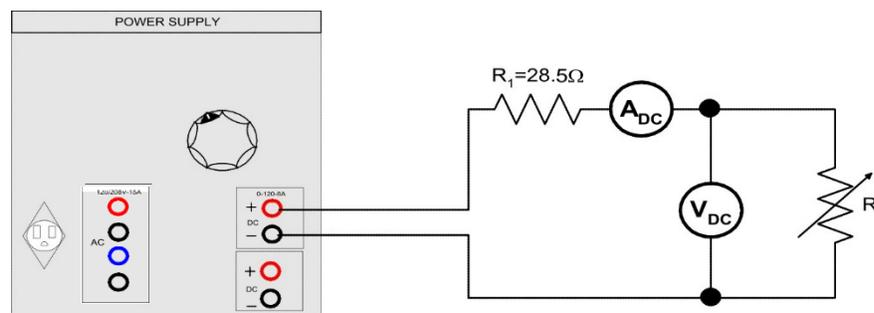

FIGURE 12.13
- Step 7: a) Connect the circuit shown in *Figure 12.13*. (Disconnect the synchronous motor from the power supply but do not uncouple the motor from the generator).